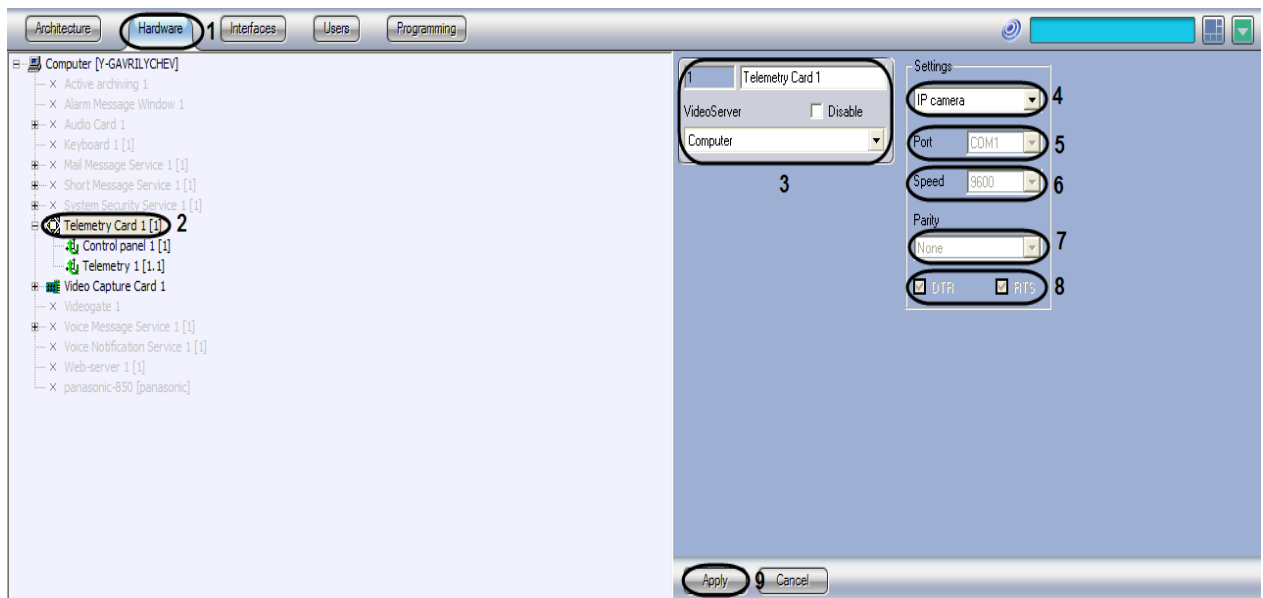

Figure 3.4-4 The setting panel of the Telemetry card object
1. Go to the **Hardware** tab in the **System settings** dialog box (Figure 3.4-4, 1).
2. Create the **Telemetry card** system object under the **Computer** object or select the corresponding object in the object tree on the **Hardware** tab in the **System settings** dialog box (Figure 3.4-4, 2).
3. When the **Telemetry card** object is created, enter the ID, the name of the object and select Server to the COM port of which the PTZ device is connected (Figure 3.4-4, 3).
4. Select the protocol of data exchange with PTZ device from the list. The data exchange protocol names in this list correspond to the PTZ types (Figure 3.4-4, 4).
5. Select the serial port (COM) number from the **Port** list (Figure 3.4-4, 5).
6. If it is necessary change the data exchange speed (Figure 3.4-4, 6).
7. If it is necessary change the parity check parameters for the data exchange (Figure 3.4-4, 7).
8. If PTZ devices are passive (i.e. with no independent power supply), the power supply of the PTZ devices must be activated via the DTR or RTS outputs of the COM port by setting the **DTR** or **RTS** check boxes (Figure 3.4-4, 8).
9. To save the changes click **Apply** (Figure 3.4-4, 9).